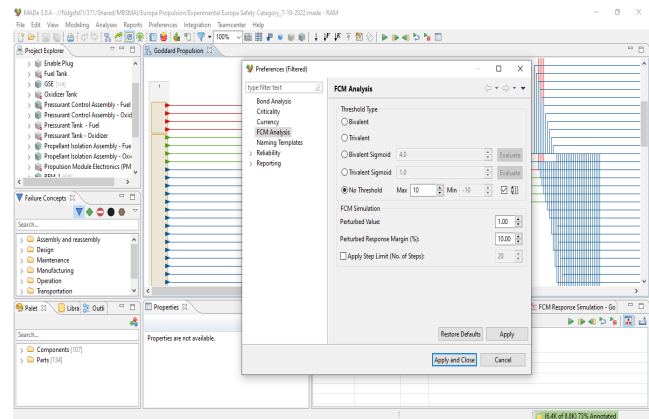

Figure B62: FCM Analysis Preferences
- b. Select *Threshold Type* and enter *threshold* or *Min/Max* values where applicable for the simulation. For example: “No Threshold” was selected in the Europa Propulsion due to complexity and varied outcomes that were expected (Figure B62).